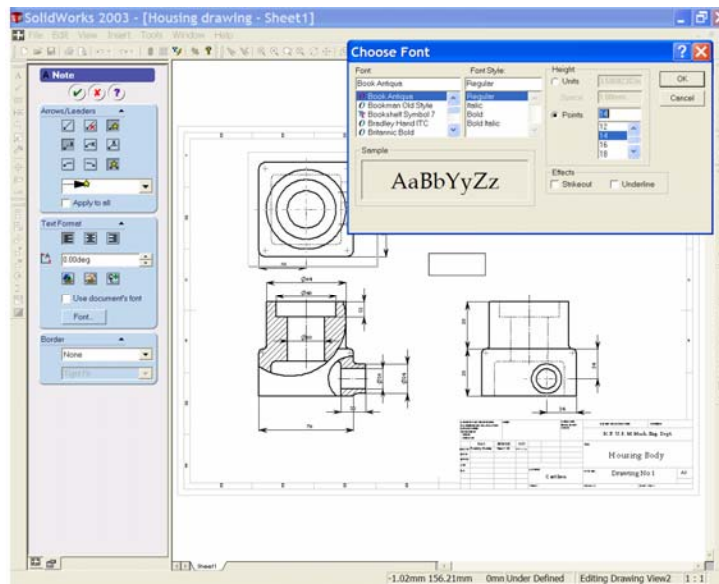

Figure 42
36. We should now add the note to give the dimension for the rounds & fillets that we have hidden. Choose 'Note' from the 'Annotations Toolbar' as before. Place the note box in a suitable location (See Figures 42 and 43.) and type **'Rounds & fillets to be R3 Unless otherwise stated'**